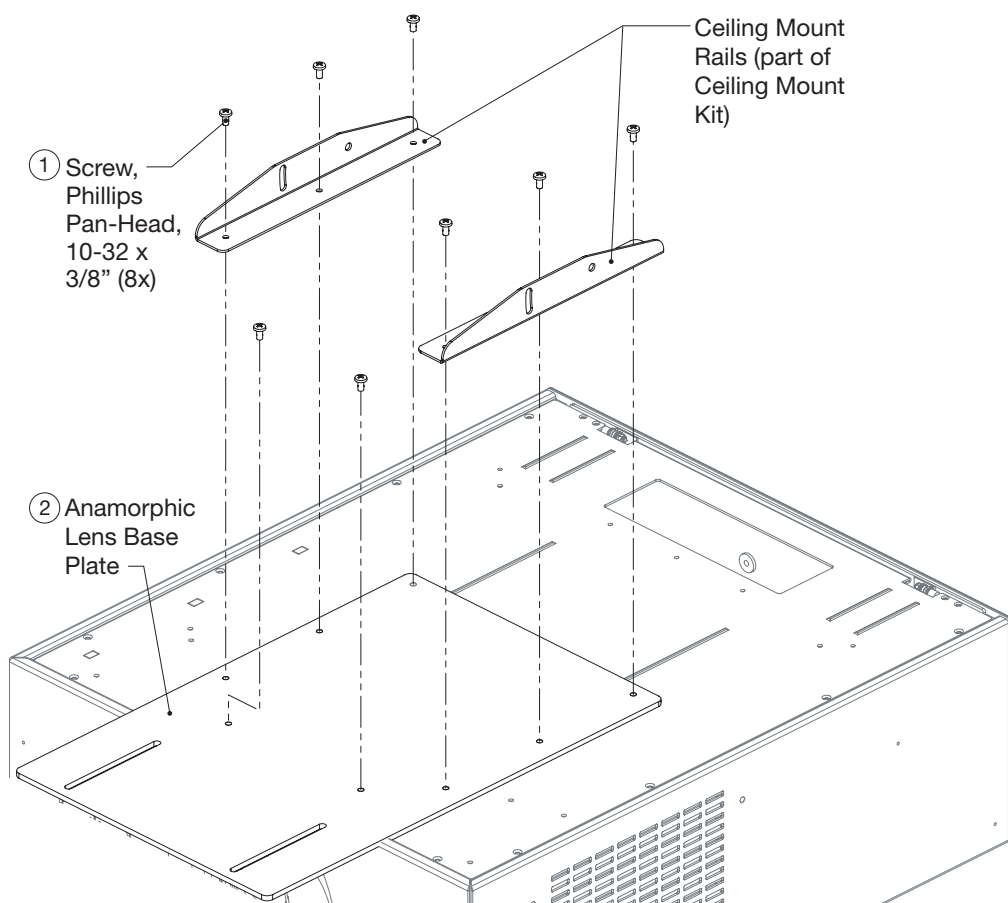

Figure 3-9. Projector with Cylindrical Lens Base Plate and Ceiling Mounting Rails - Exploded View
4. Secure the CineWide base plate (and ceiling mounting rails, if needed) to the projector with the Pan-Head Phillips screws provided with the CineWide lens base plate. See Figure 3-9.